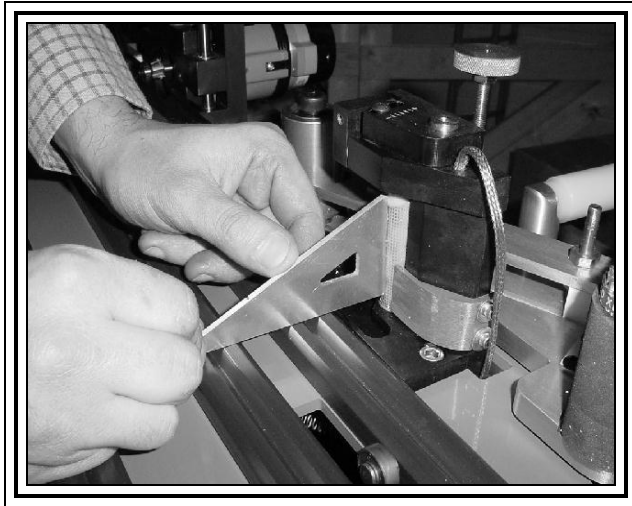
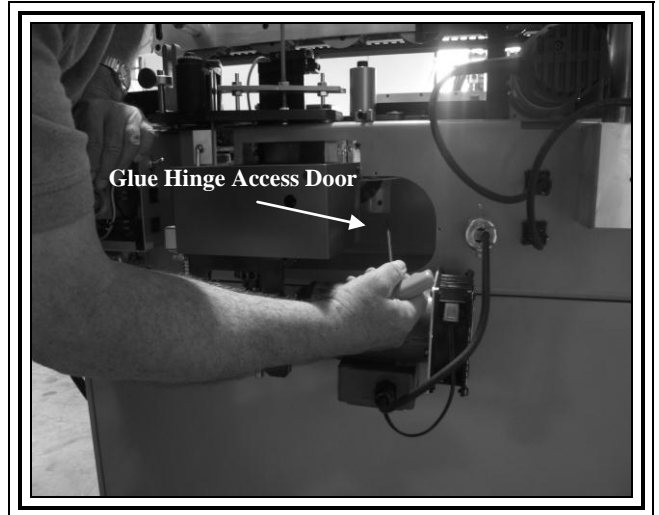
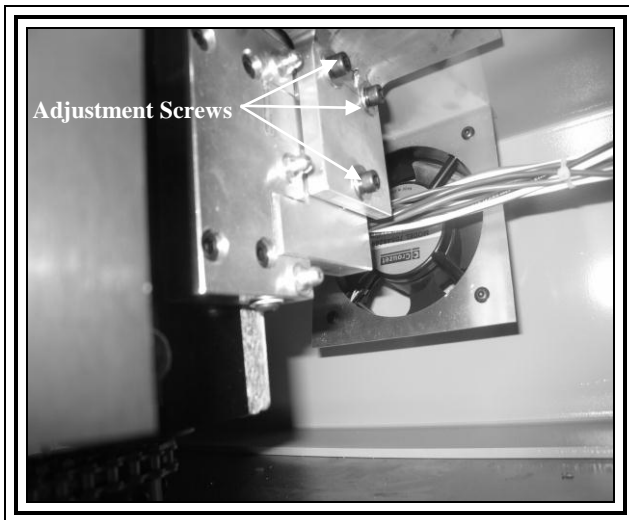
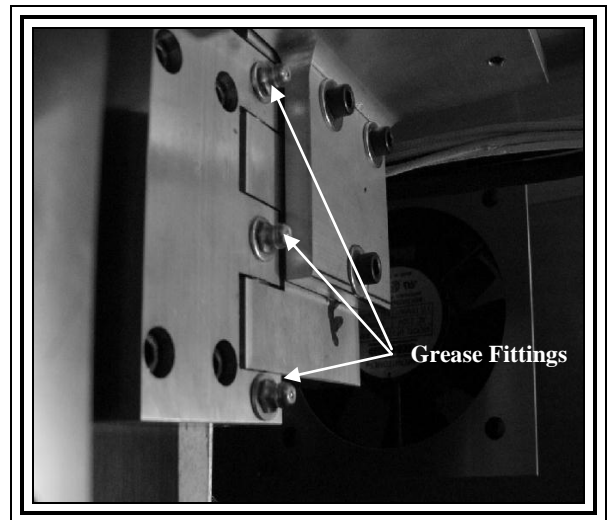

FIGURE 20
FIGURE 21
FIGURE 22
FIGURE 23
If the glue auger is not perpendicular to the panel face it may be easily adjusted by removing the cover from the glue hinge access opening (FIGURE 21) and using a 3/16" Hex Wrench to loosen the adjusting screws (FIGURE 22). Using the aluminium square provided (Figure 20), tilt glue pot until glue auger is perpendicular to the machine top and retighten screws. **NOTE: The auger is factory aligned and tested however due to shipping it may have moved slightly and need minor alignment, following these procedures. POWER MUST BE DISCONNECTED AND GLUE POT ALLOWED TO COOL BEFORE PERFORMING THIS ADJUSTMENT.**
**NOTE: Hinge Access opening (FIGURE 21) also allows access to hinge pin grease fittings. The hinge pin should be lubricated after every 40 hours of use with a high quality high temperature grease (FIGURE 23).**